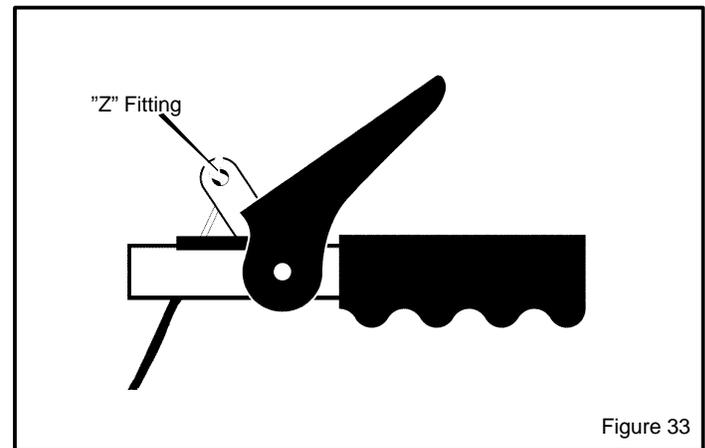

Figure 33
To check for correct adjustment, unhook "Z" fitting at clutch lever (see Figure 33)
4. Disconnect the “**Z**” fitting from the **drive lever** (see Figure 33).
10. Install the “**Z**” hook to the **traction drive lever** (see Figure 33).